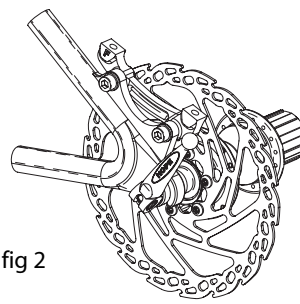

fig 2
a) According to the rotor size and type of mounts, attach the suitable adaptor bracket onto the brake tabs and tighten the two M6 bolts using a 5mm Allen key. Recommended tightening torque 8-9 N.m. Illustration fig 2.